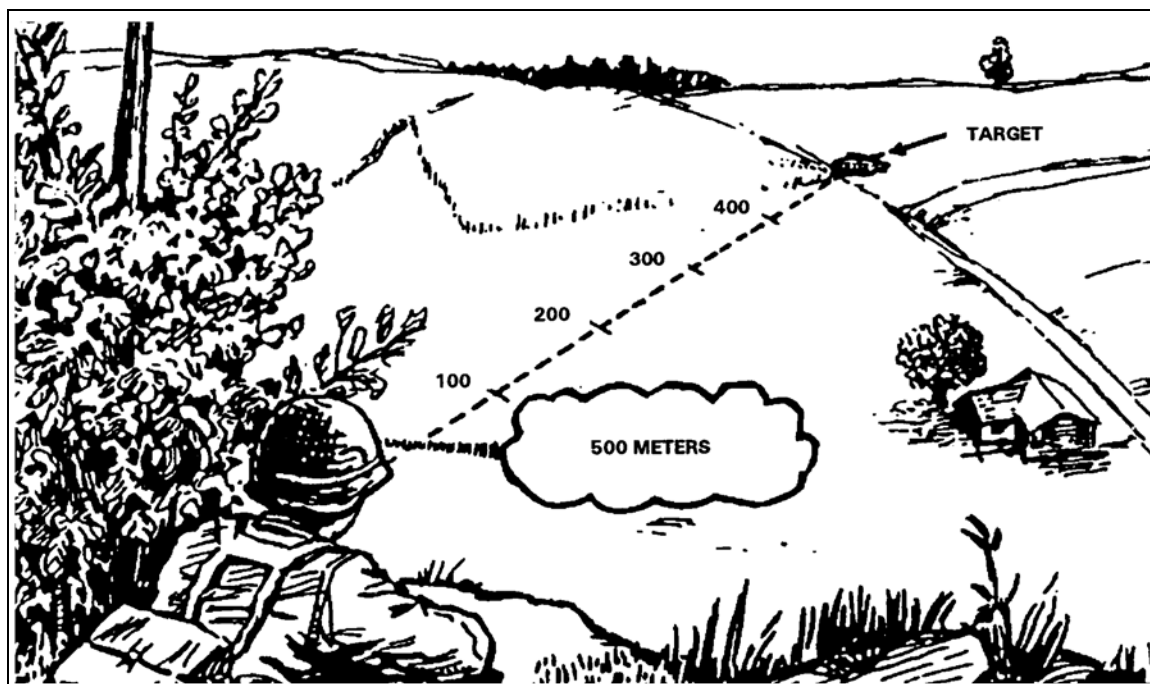

Figure 6-4. Application of the 100-meter unit-of-measurement method.
a. **100-Meter Unit-of-Measurement Method.** Visualize 100 meters on the ground (this takes practice). Then estimate how many 100-meter units lie between you and the target (Figure 6-4).